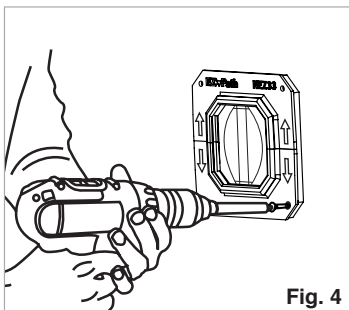

Fig. 4
5. Insert inner sleeve and secure to wall. Be careful not to over tighten. (see fig.4)